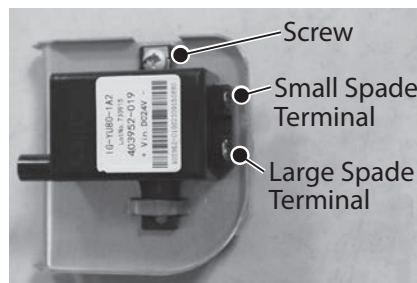

Figure 58 - Ignitor assembly location
- 7 Disconnect the two spade terminal connections at the back of ignitor and remove ignitor assembly and bracket from water heater. See Figure 58.
- 8 Locate the screw securing the ignitor to the bracket. Remove screw and place aside in a safe place for reinstallation. See Figure 58.